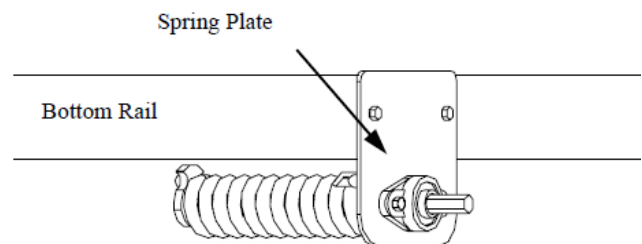

figure 15
STEP 2: Installing the spring and shaft assembly, see *figure 15*. Hold the previously assembled spring and shaft under the body so the top of the spring retainer is against the bottom of the bottom rail and the spring plate is on the outside of the bottom rail. Using a 3/8" drill bit, drill holes in the bottom rail to match the holes in the spring plate. Using 3/8" x 2" hex bolts, washers and nuts, fasten the assembly to the bottom rail.